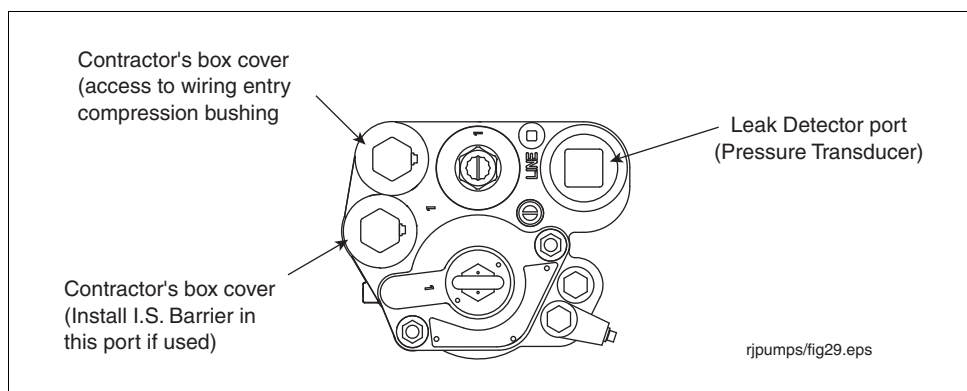

Figure 15. VSFC Component Installation Ports
Refer to the appropriate section of the PLLD Site Prep manual (P/N 576013-902) for transducer installation in the Leak Detector Port (see Figure 15).
If an I.S. Barrier is being installed, refer to the appropriate section of the VSFC Site Prep manual (P/N 577013-815) for installation instructions (refer to Figure 15 for installation port).
1. Remove and set aside the cover of the contractor's box over the wiring entry compression bushing (refer to Figure 15).